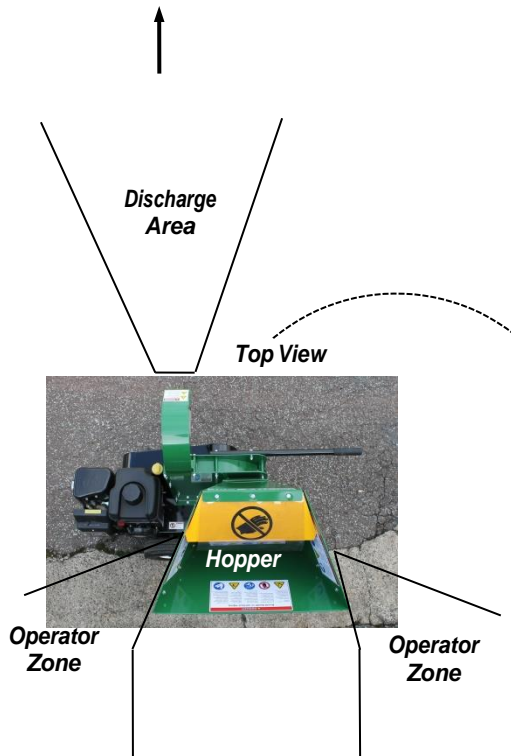

Figure 11
- Only operate the MACKISSIC GRAVITY SELF FEEDING CHIPPER from the Operator Zones (**Figure 11**).